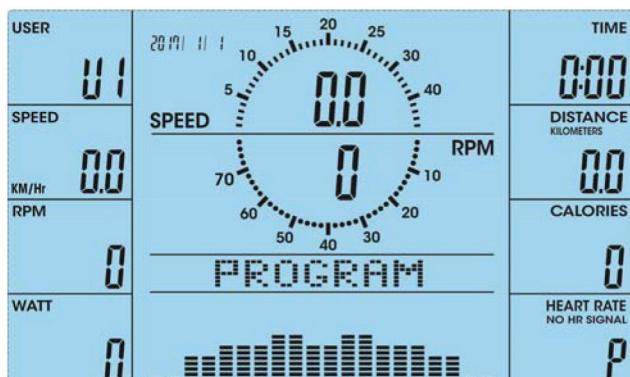
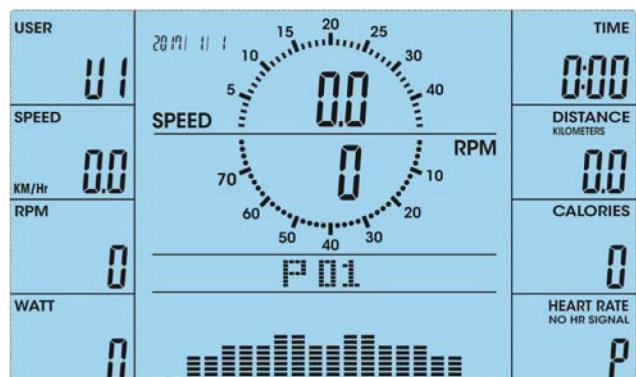

Fig. 18
Fig. 19
1. Press ENTER in the MANUAL programme (fig. 19).
- After entering the PROGRAM mode (fig. 18) you can choose one of the 12 hill programs with the UP/DOWN buttons (fig. 19 to 30).